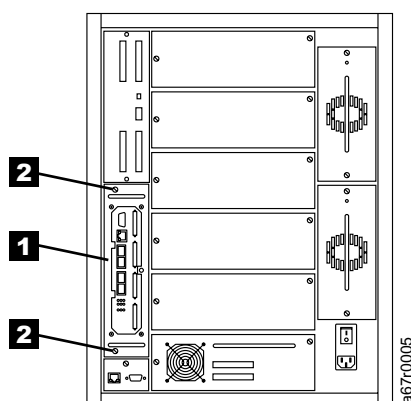

Figure 79. Gateway in tape library
7. See Figure 79. Loosen thumbscrews **2** and slide the Gateway **1** out of library.
See Figure 79 for following steps: